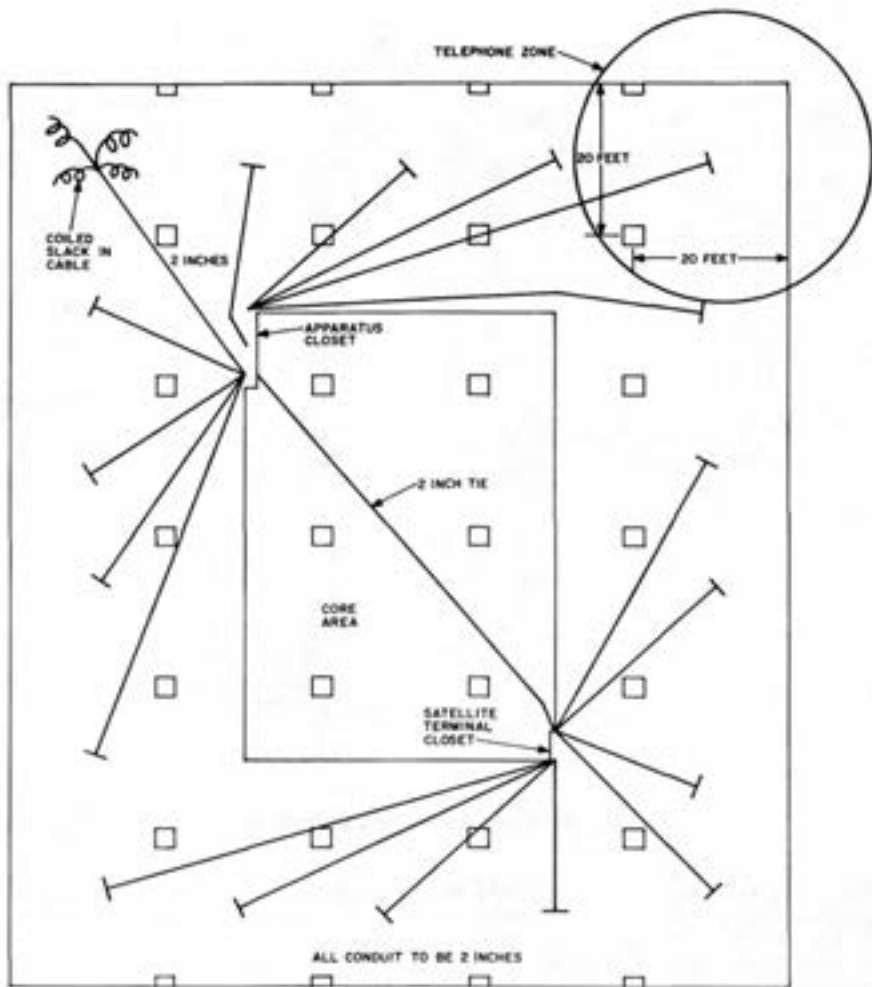

Fig. 8—Typical Ceiling Distribution System Using Conduit to Telephone Zones
5.02 To feed the telephone zone, the building will usually have a continuous length of 2-inch conduit in the ceiling space, properly supported, to permit the pulling-in of cables. This conduit should extend from the nearest telephone terminal or apparatus closet and left open ended at the midpoint of each telephone zone as illustrated in Fig. 8.